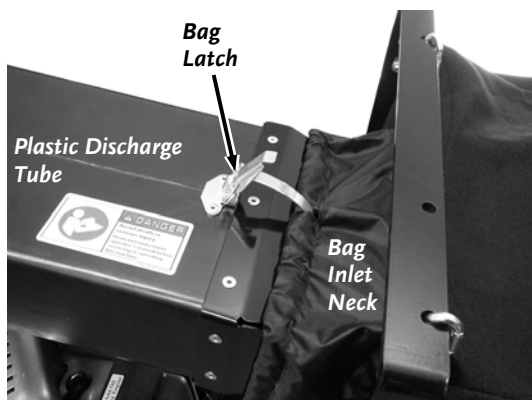

Figure 18
20. Hook the bottom two Latch Hooks over the Metal Ring in the Bag Inlet and latch them (**Figure 18**).